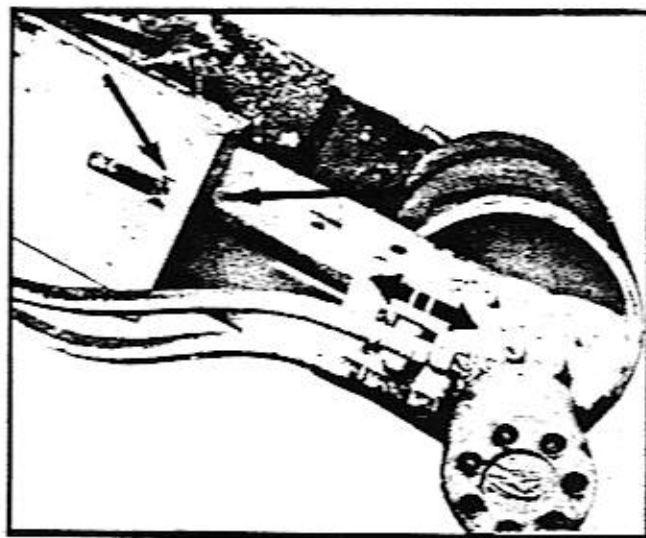

Figure 14-7
1. Loosen locking nuts on adjusting rods on each side of conveyor. See Figure 14-7.